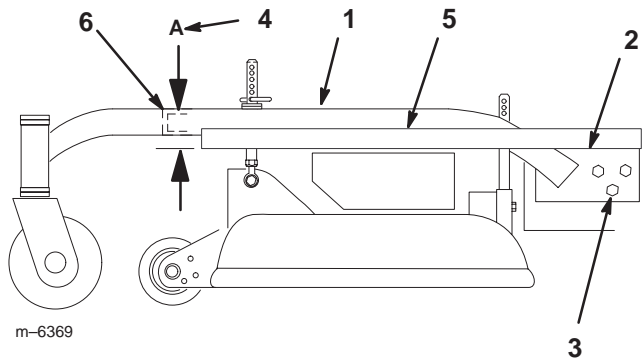

Figure 67
3. Place a long straight edge on top of the engine deck as shown in figure 67.
4. At the carrier frame cross tube, measure location A height (Fig. 67). This measurement must be 1–5/16 inch (33 mm), plus or minus a 1/4 inch (6 mm).
6. Loosen the carrier frame mounting bolts on both sides of the machine (Fig. 67).
7. Align the carrier frame and engine deck to match 1–5/16 inch (33 mm), plus or minus a 1/4 inch (6 mm) at location A (Fig. 67).